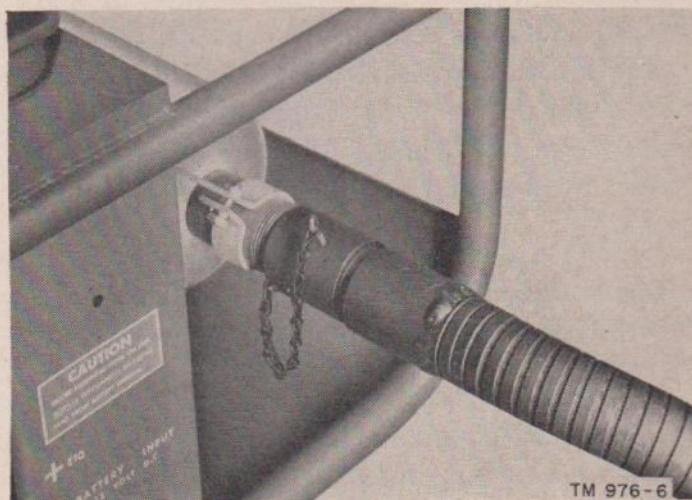

Figure 6. Exhaust tube connection to muffler.
b. Connecting Exhaust Tube. For indoor operation, connect the exhaust extension tube to the muffler (fig. 6). Extend the tube to an exterior wall; use the most direct route with as few bends as possible. *All connections must be gastight.* Pitch the tube downward, away from the unit, so that all resulting condensation will drain out. If the tubing passes through an inflammable wall, install appropriate fireproof insulation.